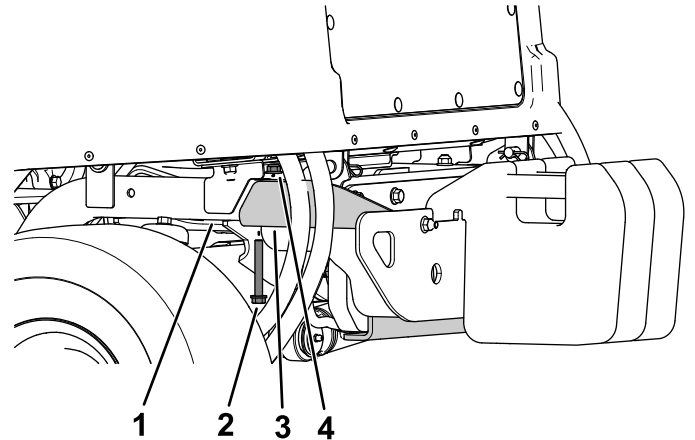

Figure 21
1. Remove the flange-head bolt (3/8 x 2-3/4 inches) and flange nut (3/8 inch) securing the bumper to the rear tube frame on each side of the bumper (Figure 21).